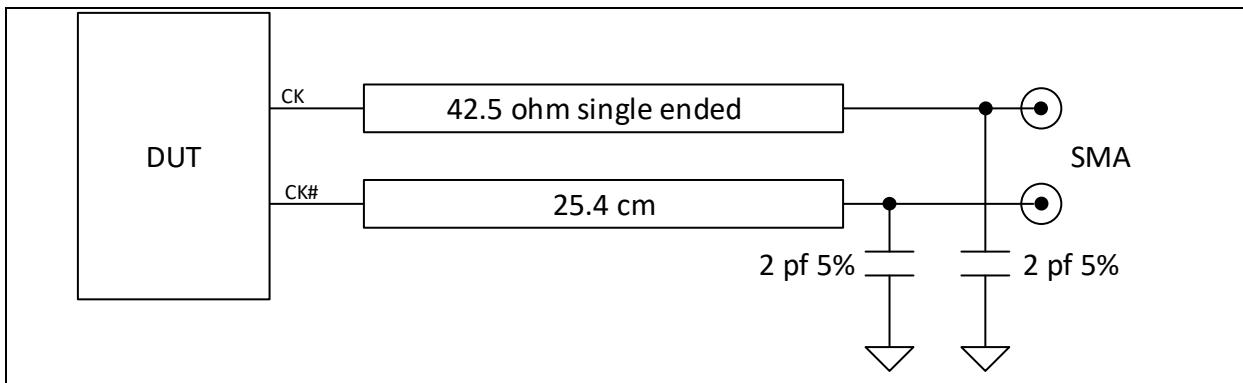

Figure 21. AC Test Load as per DB2000QL Specifications
1. Measured into AC test load as per Figure 21.
1. Measured into Figure 21 AC test load.